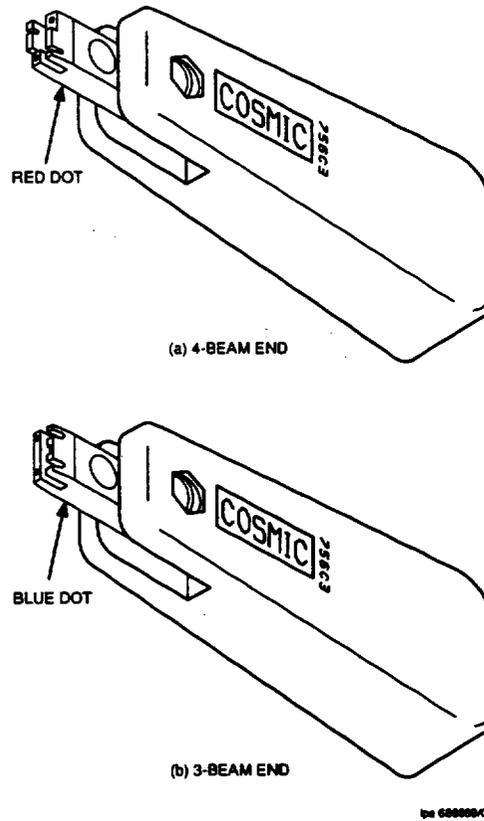

Figure 5. 756C3 Wire Insertion Tool (DA)
2.10 The 756C3 tool (Figure 5) is used when terminating 24-gauge (0.5 mm) jumper wire and the 756C4 tool is used for terminating 22-gauge (0.6 mm) jumper wire. All 756C-type tools can be equipped with new "multipurpose" wire insertion bits (756C5-1, Comcode 105611545). The 756C3 and the 756C4 tools are Discontinued Availability (DA), and are replaced by the 756C5/C6 tools.